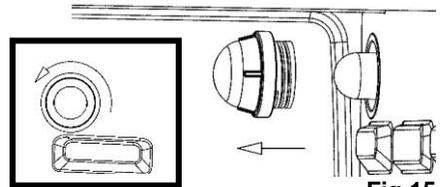

Fig 15
3. Remove (unscrew) the spent bulb (figs. 15 & 16) and replace with one of the same type (Max 15W E14 (small Edison screw) incandescent oven bulb). Handle the new one carefully and screw in firmly, taking care not to cross threads. Always use the same or lower wattage bulb. Please use low energy bulbs where possible.